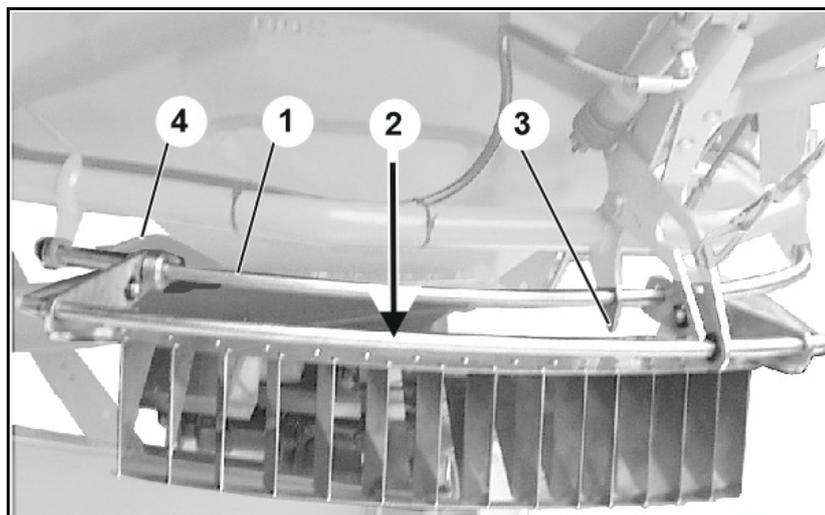

Fig. 76
- Settings are configured by moving the border spread deflector on the guide bracket (Fig. 76/1).
- The values to be read from the setting chart also appear on the border spread deflector (Fig. 76/2).
- The tip of the cylinder holder serves as the indicator for the setting values (Fig. 76/3).
1. Release the rotary handle (Fig. 76/4).